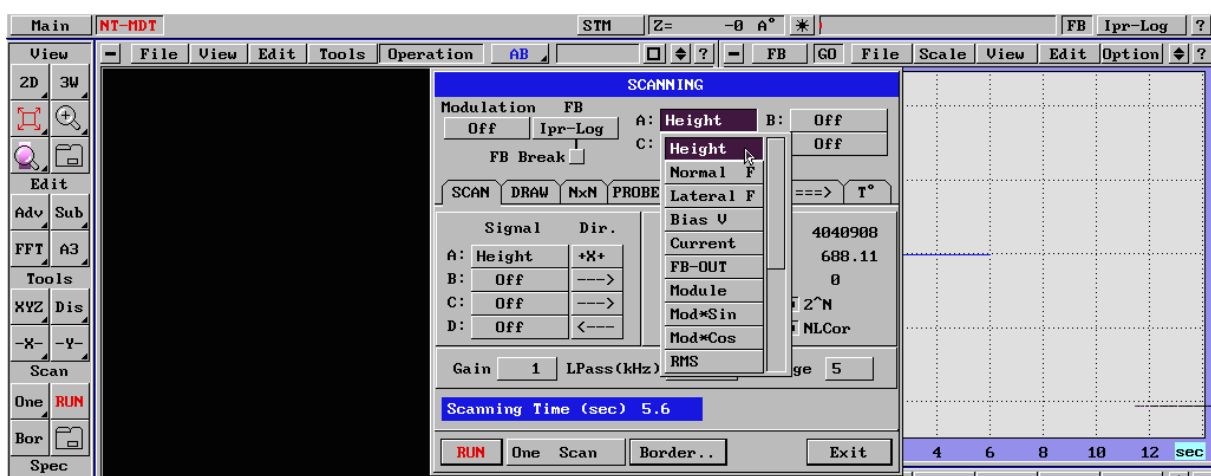

Fig. 56
- Scan A - Height (Fig. 56)
- Scan B, C, D - off (Fig. 56)